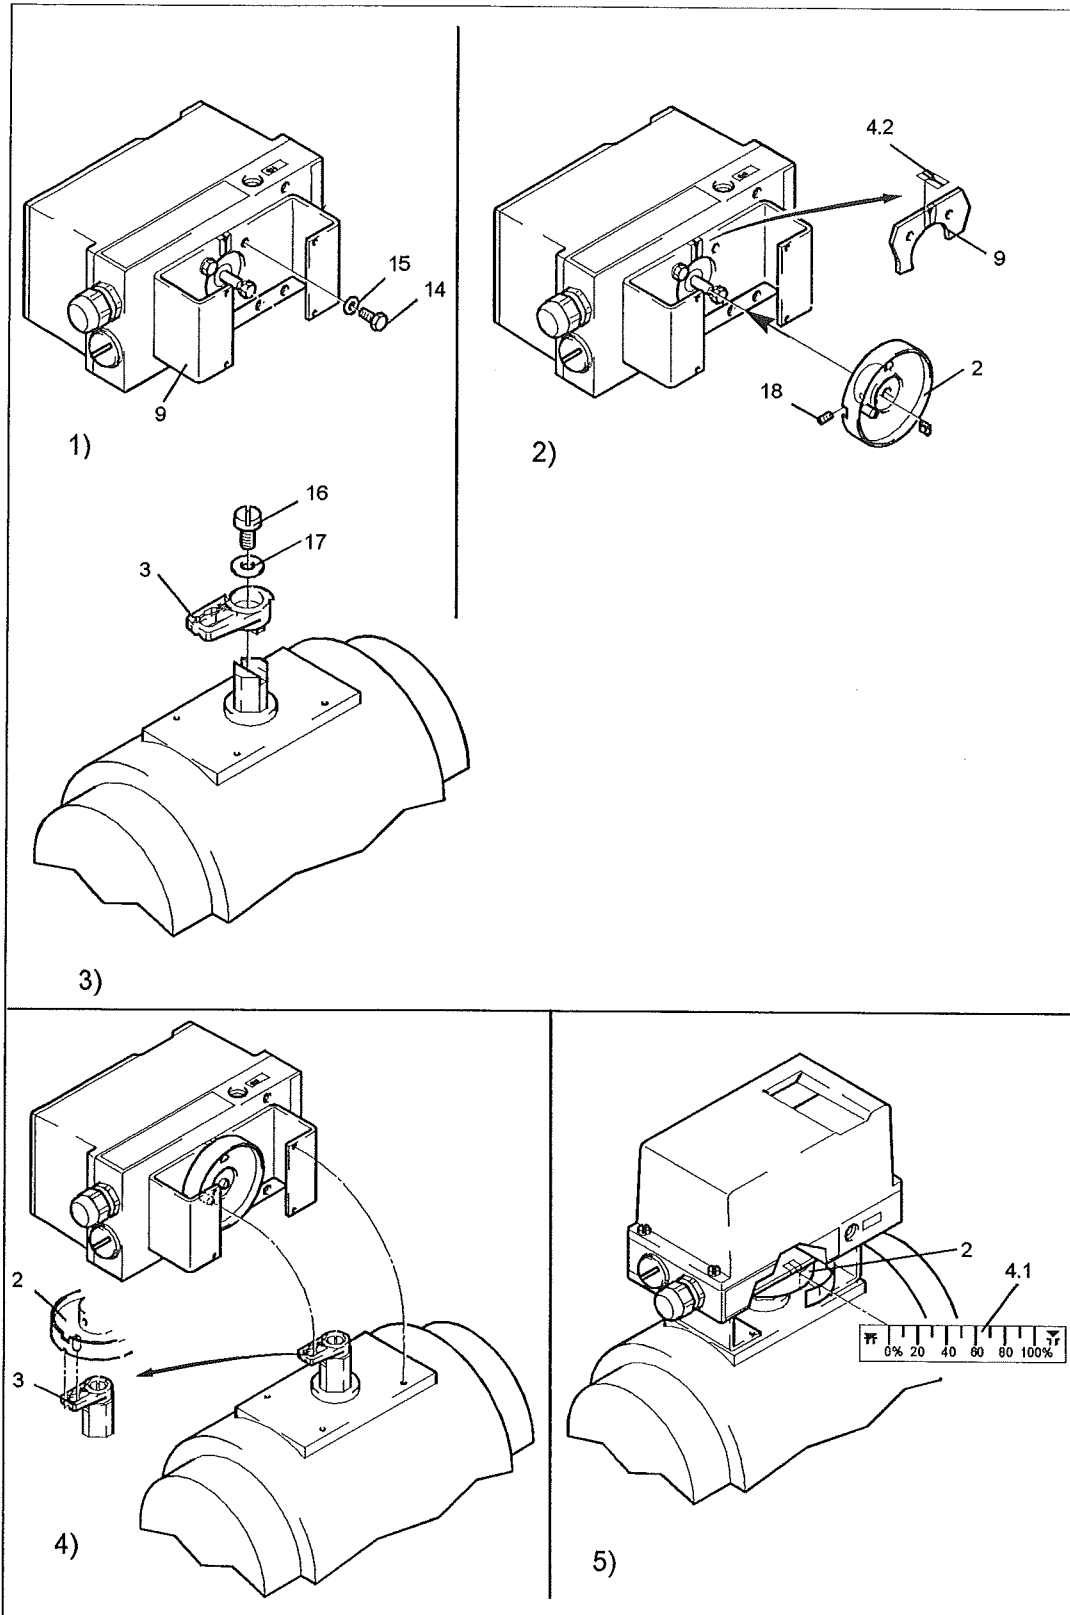

Figure 6 Assembly procedure for VDI/VE 3845 rotary actuator
Included with the "VDI/VDE 3845 rotary actuator" mounting kit are (see Figure 6 for identifying numbers):
3.4.1 Assembly procedure (see Figure 6)